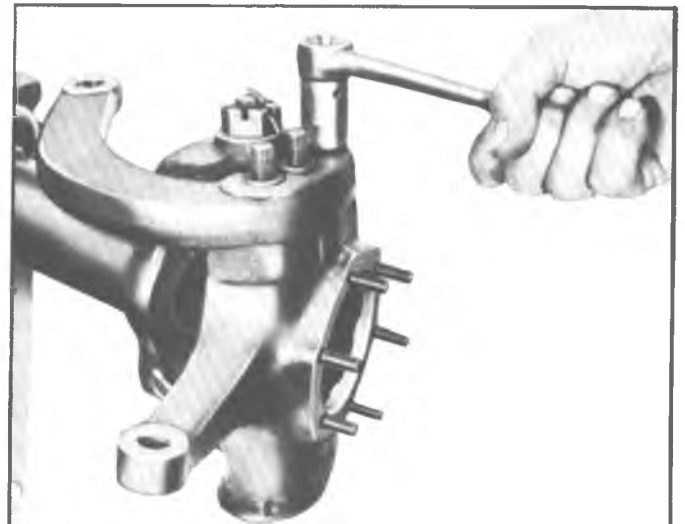

Fig. 61—Removing Steering Arm Nuts
**CAUTION:** *If it is necessary to remove the steering arm, discard the three self-locking nuts (Fig. 61) and replace with new nuts at assembly.*